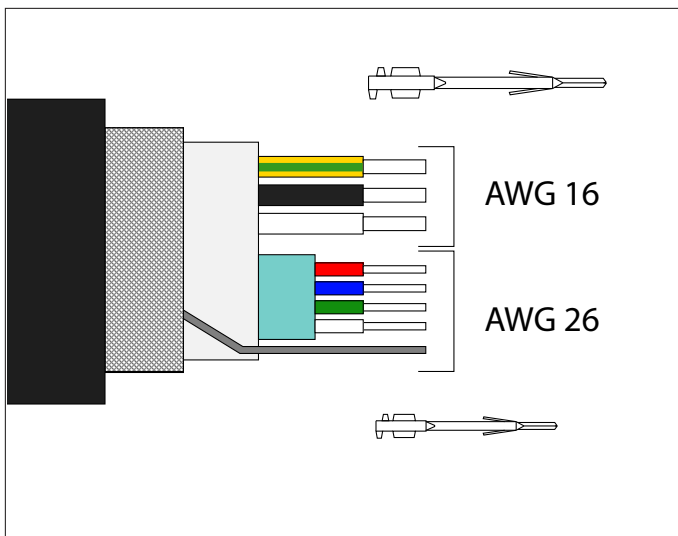

Figure 20: VP Cable
3. Strip the cable with suitable tools. The exposed copper wire should be 9-11mm (see figure 20).